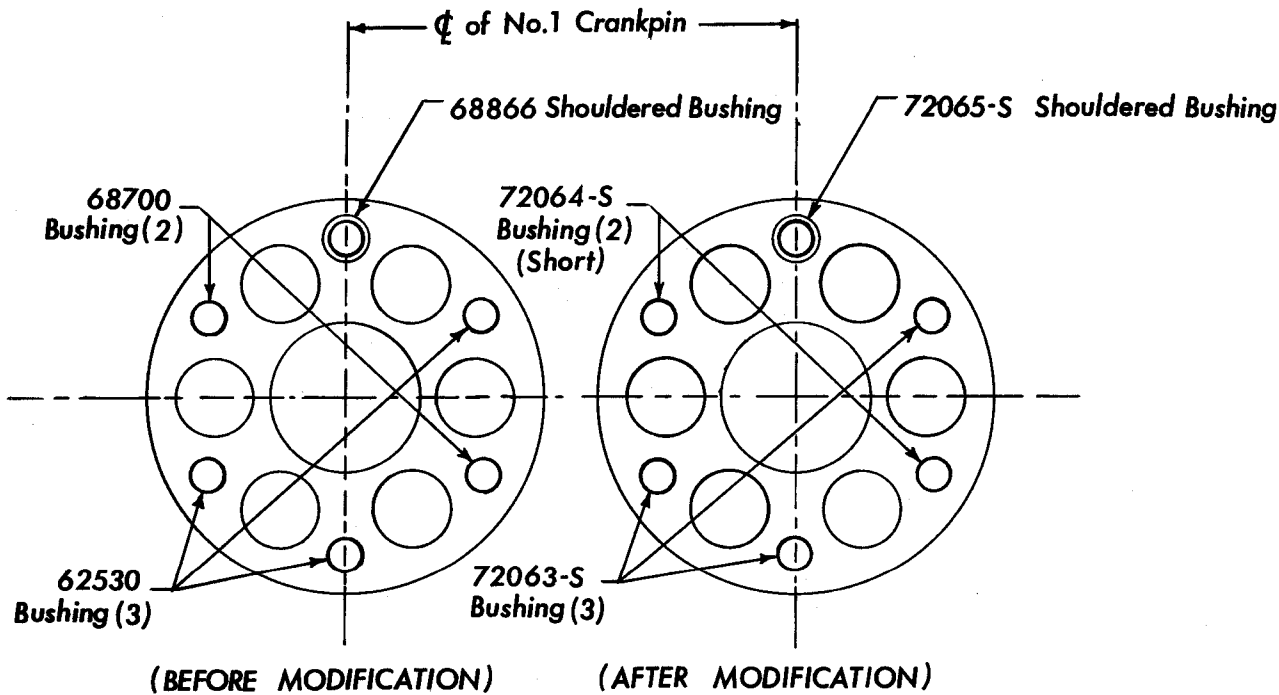

Figure 2. Location of O-320 Crankshaft Flange Bushings
- c. Use the crankshaft flange bushing tool (Lyc. P/N 64869) to remove the shouldered bushing (Lyc. P/N 68866). Reverse the puller and insert the new bushing (Lyc. P/N 72065-S). Figure 2.
bushings Figure 2. Reverse the puller and install the two (Lyc. P/N 72064-S) bushings.
- e. Remove the remaining three (Lyc. P/N 62530) bushings. Figure 2. Install the new bushings (Lyc. P/N 72063-S).